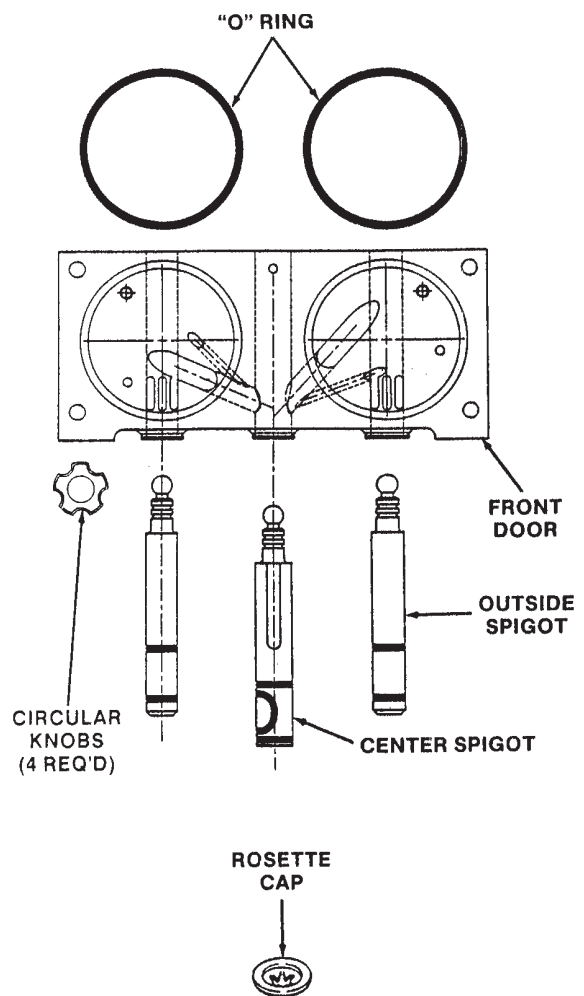

Figure 28. Exploded View of Front Door
- H. Install the spigot bodies with "O" Rings into the front door from the bottom (Fig. 28). Push straight up until the spigots are in place. Install rosette cap.